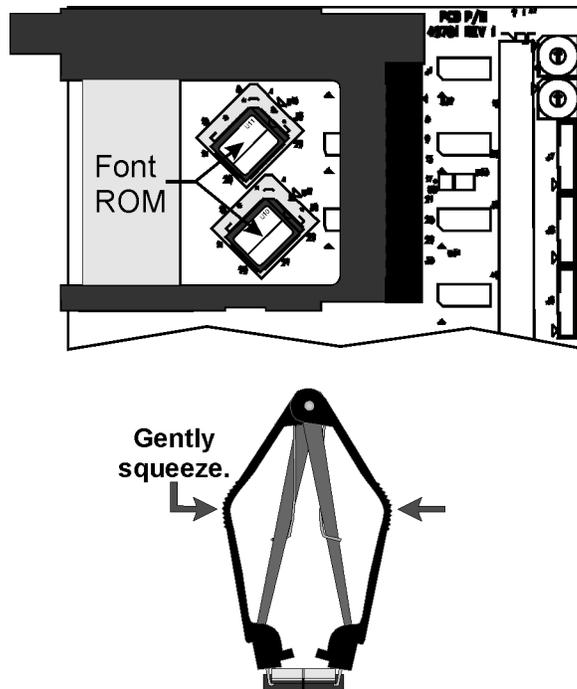

Figure 6-2. Font ROM
1. Refer to RRP No. 1 on page 4-13. From the rear, turn the printer Off (O) and remove the AC power cord. Remove any communication cables.
3. Refer to Figure 6-2. Remove the option card shield. Push the card-eject button to remove the font/memory board.
4. Refer to Figure. 6-2. Remove any existing ROM from sockets.